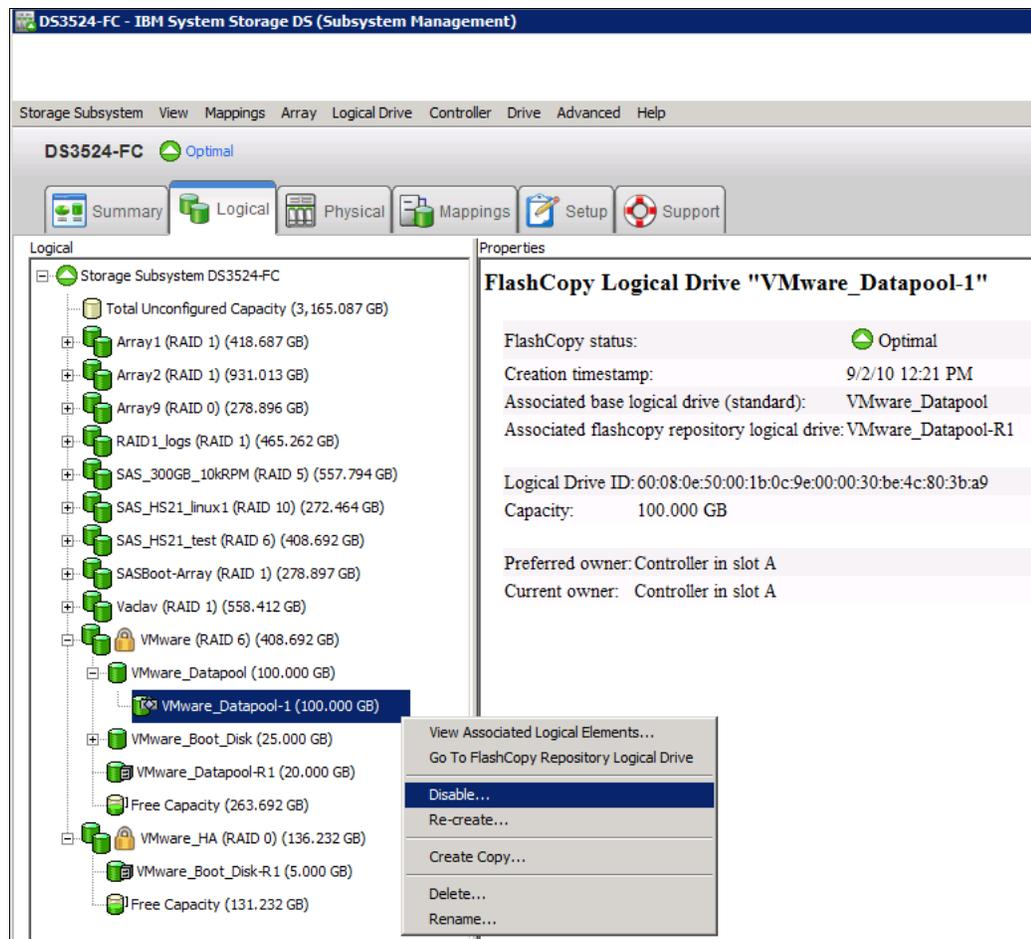

Figure 2-31 FlashCopy logical drive: Disable
1. Right-click the FlashCopy logical drive and select **Disable**, as shown in Figure 2-31.